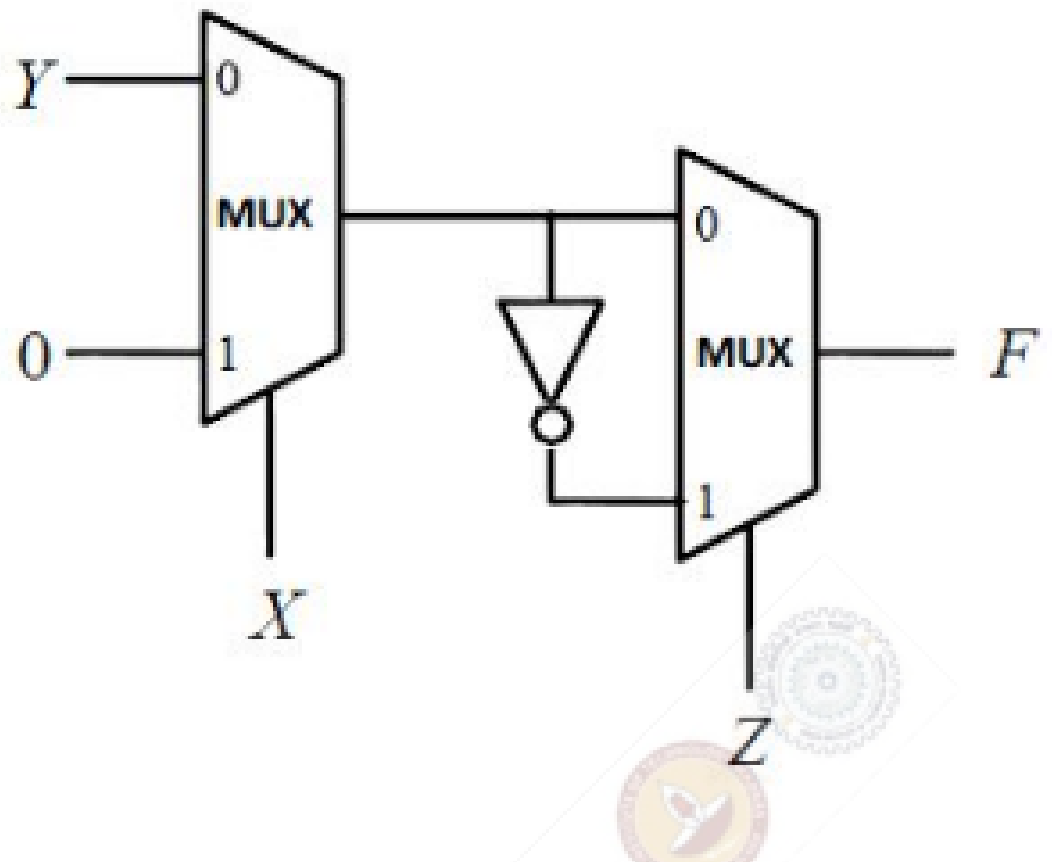

Figure 3.8:
21. Find the logic function implemented by the circuit given below in Fig. 3.8 (GATE